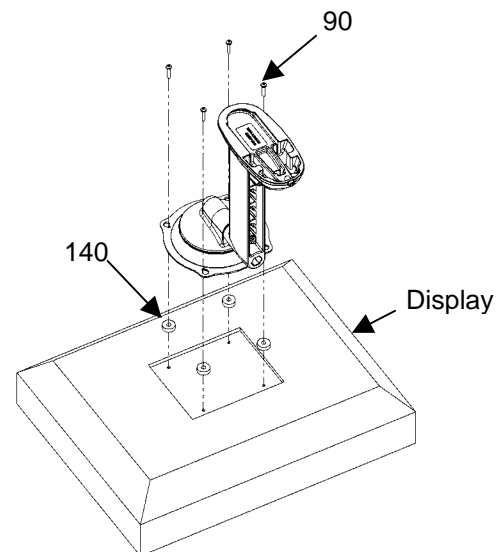

Figure 8. Recess Mount Centris Bracket to Display
2. Select four screws M4 x 20mm screws (90) from Bag A and four spacers (140) from Bag C.
3. Place four spacers (140) over mounting holes on back of display (see Figure 8).
5. Install four screws M4 x 20mm screws (90) to attach Centris bracket to display (see Figure 8).